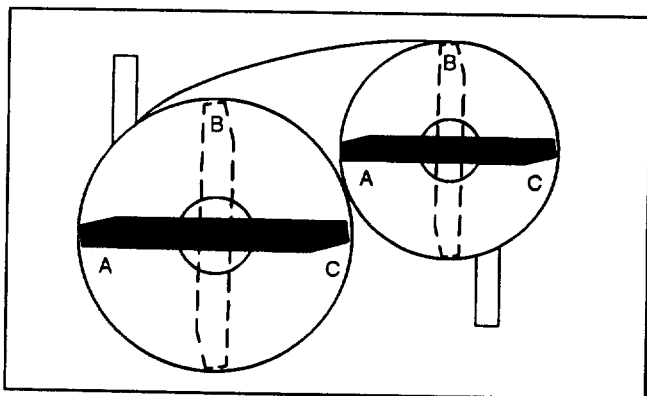
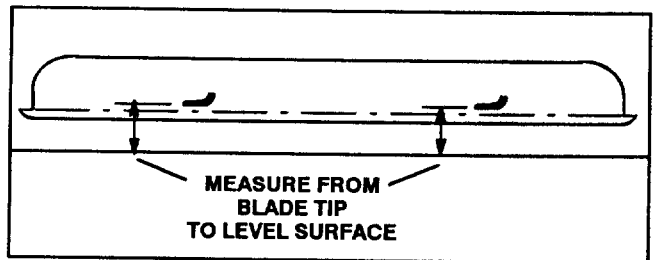

Figure 16
Figure 17
4. Position both blades in the "A" position (Fig. 16) and measure from level surface to the bottom of the tip end of each blade (Fig. 17).
5. Note measurement attained at "A", rotate blades to "B" position (Fig. 16), measure distance of all blades to level surface and note dimensions (Fig. 17).
6. Rotate blades to "C" position, measure and note distance measured (Fig. 16).
**B.** Transfer one thrust washer from top side of castor shaft to lower side, install castor assembly and compare blade height of all blades; refer to items 3 through 7. Continue adding thrust washers if height still does not meet requirements.
**D.** Transfer one thrust washer from lower side of castor shaft to top side, install assembly and compare blade height of all blades; refer to items 3 through 7. Repeat procedure if height still does not meet requirements.